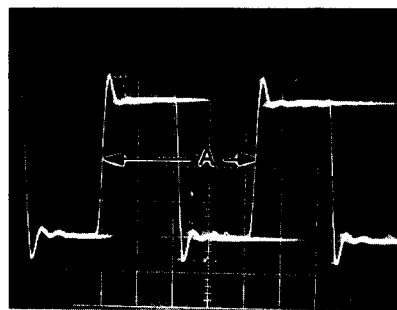

Fig. 28
- Adjust A = 0.21 ± 0.01 μ sec. Fig. 28 with R312 in the luminance section of PV01.
- Focus the scope on the first multiple waveform trace (Fig. 28).